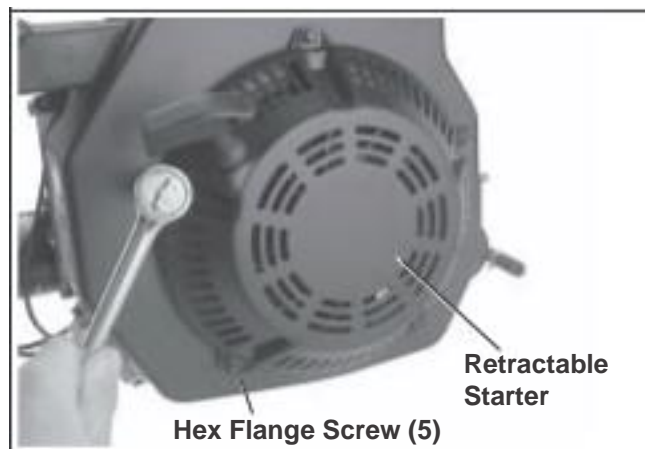

Figure 9-13. Removing Retractable Starter.
1. Remove the five hex flange screws and retractable starter. See Figure 9-13.